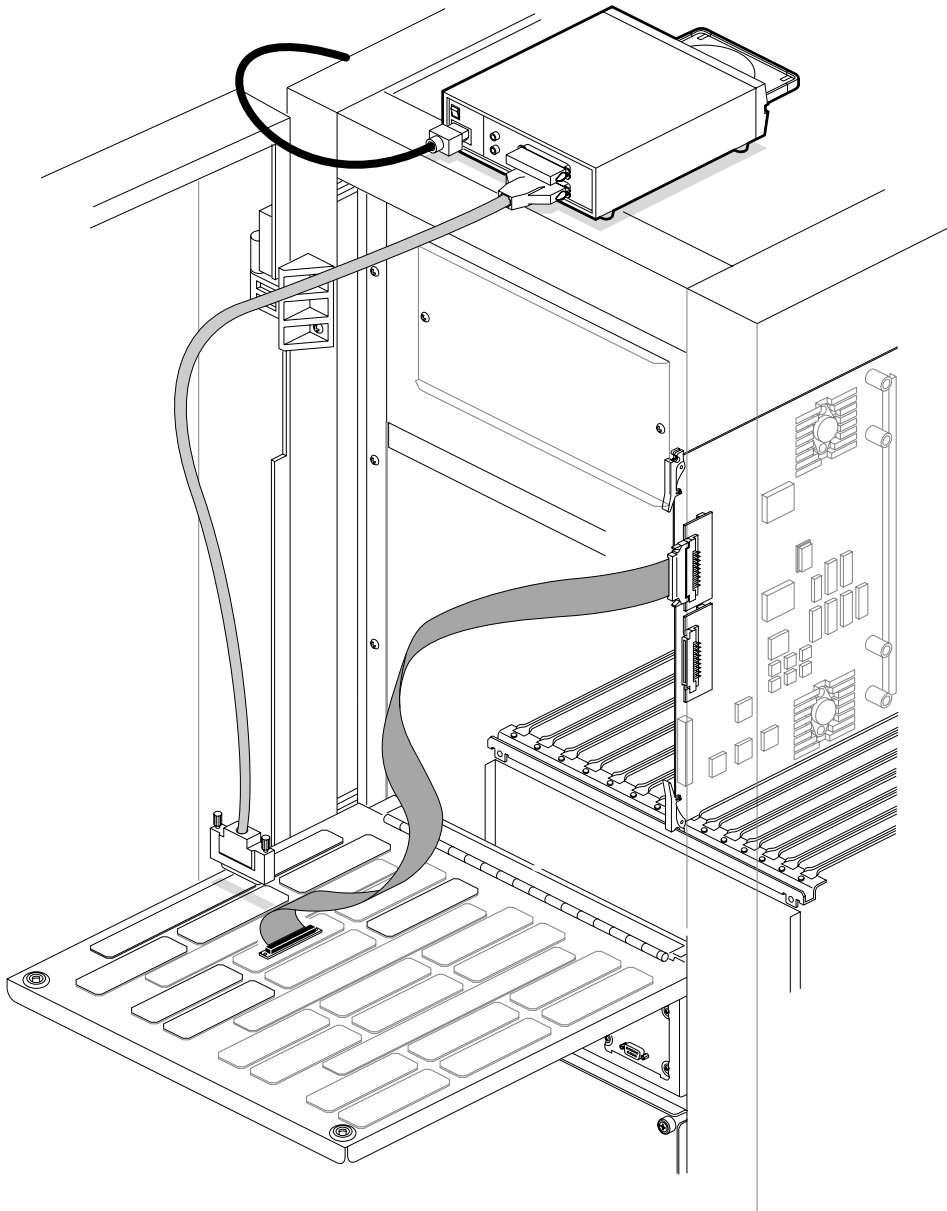

Figure A-1 Cabling the IO4 Board for an External CD-ROM Drive (Rackmount)
11. Attach the edge connector on the end of the newly installed ribbon cable to the single-ended SCSI connector on the IO4 board. See Figure A-1.